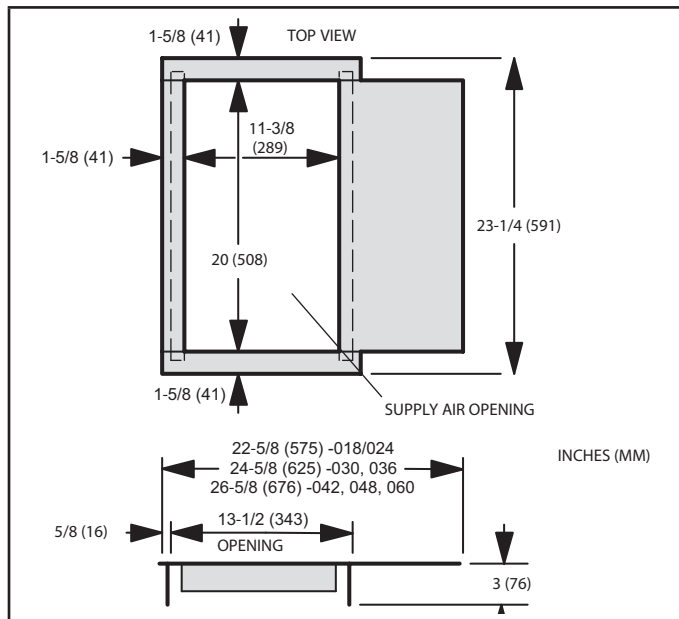

FIGURE 10. Downflow Combustible Base Dimensions
- 9 - Cut an opening appropriately sized for combustible base. Base dimensions are illustrated in figure 10. After opening has been cut, set the additive base into opening. Connect outlet air plenum to the additive base. Set the unit on the additive base so flanges of the unit drop into the base opening and seal against the insulation strips. The unit is now locked in place. Install return air plenum and secure with sheet metal screws.